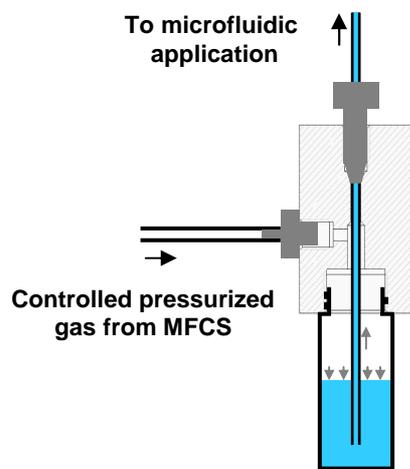

Figure 7 Fluiwell's working principle
- The Fluiwell, a microfluidic interface between the MFCS and your Microdevice that uses 1/16" OD tube or smaller (see Figure 7)